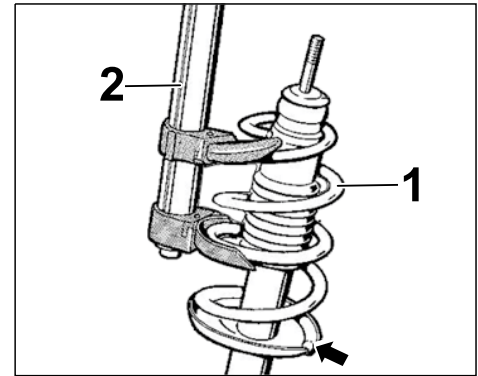

Figure 3
2.1.3 Pre-tension new coil spring using spring tensioner (⇒ *Figure 3*).
Position new coil spring on the shock absorber as shown in *Figure 3* (⇒ *Figure 3*).
The end of the coil spring is touching the stop on the concave washer (⇒ *Figure 3 -arrow-*).